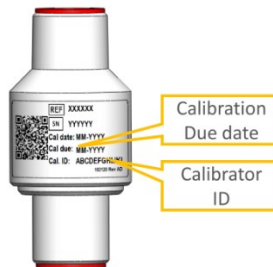

Figure 4.4: Test Load Calibrator ID and Calibration Due Date
Step 1 of the Field Calibration allows you to enter the Calibrator ID if you are performing the Field Calibration for the first time, or if you are changing test loads. Enter the Calibrator ID as shown in Figure 4.4. Note that each Calibration Test Load has a unique Calibrator ID that communicates to the software the exact characteristics and expiry date of this particular Calibration Test Load. The Test Load is valid for one (1) year. During field calibration, the expiration date of the test load is verified and reported by the software as shown in Figure 4.5. If the test load is expired by more than 30 days, you will not be able to proceed with calibration. Contact THORASYS if your test load is due for re-calibration.